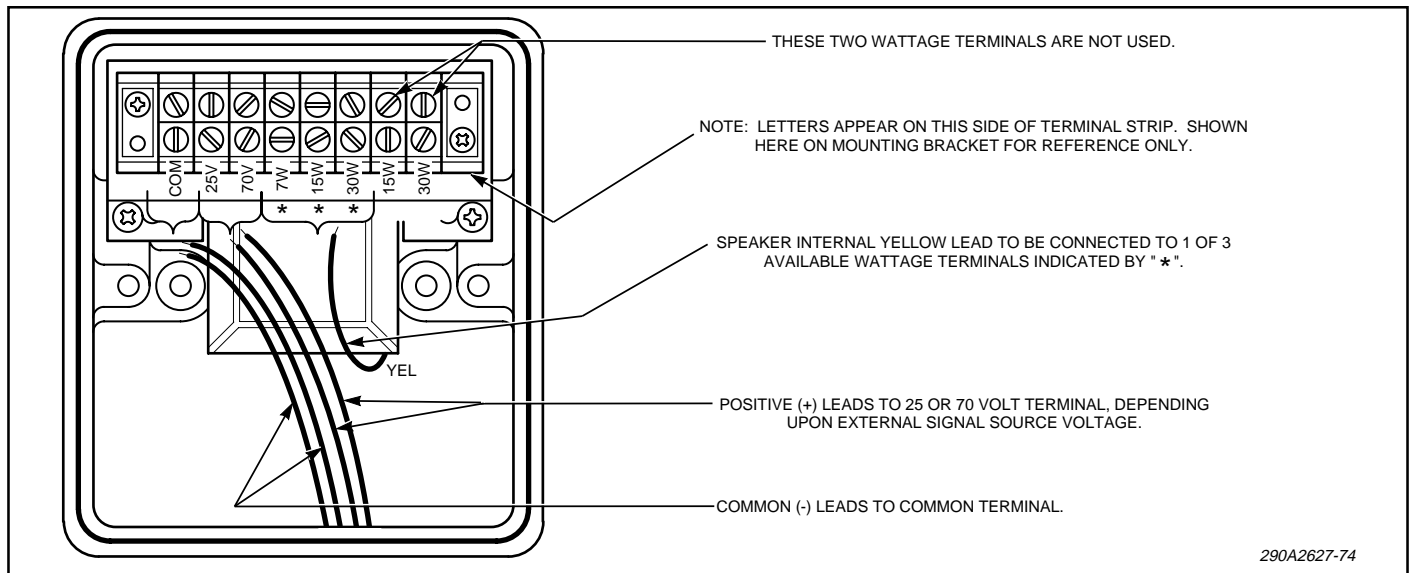

Figure 3. Internal Multi-tap Wiring Set-up.
3. The AM302 and AM302GCX are factory configured for 30 W operation. If a different wattage terminal is desired, remove the wire leading to the speaker from the terminal marked 30 W and connect it to the terminal marked 7 W or 15 W as indicated in figure 3.
Only three (3) of the five (5) wattage terminals marked on the terminal block are for use on the AM302 and AM302GCX. For proper operation, the speaker wire should be connected to one (1) of these terminals as indicated in figure 3. The remaining two (2) wattage terminals are not used.
- A. After installation is complete, be sure to test the system to verify that each speaker operates satisfactorily. If it is found that the unit is too loud for its location, a lower wattage tap may be selected. Carefully remove the housing cover and move the speaker internal yellow lead to a lower wattage tap (see Figure 3). Reinstall the housing cover and retest.